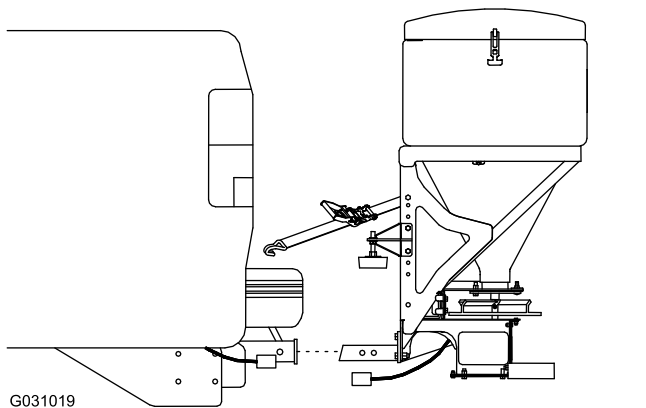

Figure 20
5. Slide the spreader out of the receiver hitch of your vehicle (Figure 20).